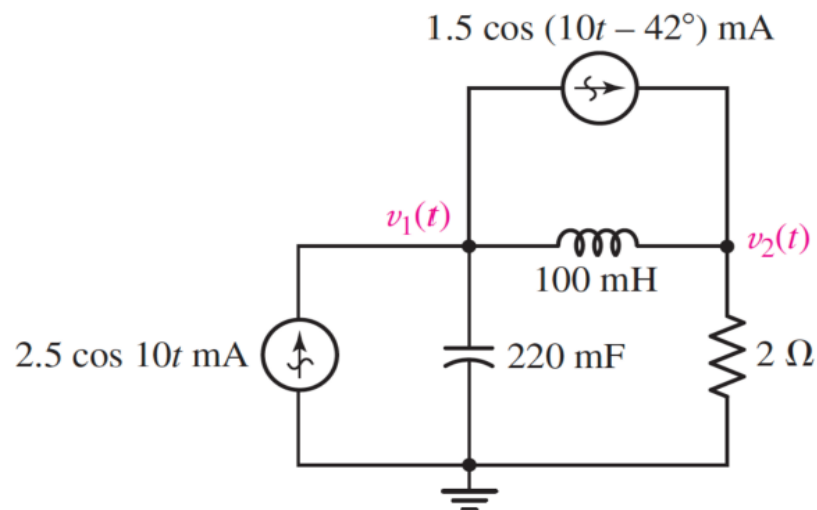

Figure 1: Circuit 1 Schematic
1. An RLC circuit was built in Cadence, consisting of a resistor ($R = 2\Omega$), an inductor ($L = 100\text{mH}$), a capacitor ($C = 220\text{mF}$) and 2 current sources as shown in the schematic in Figure 1.